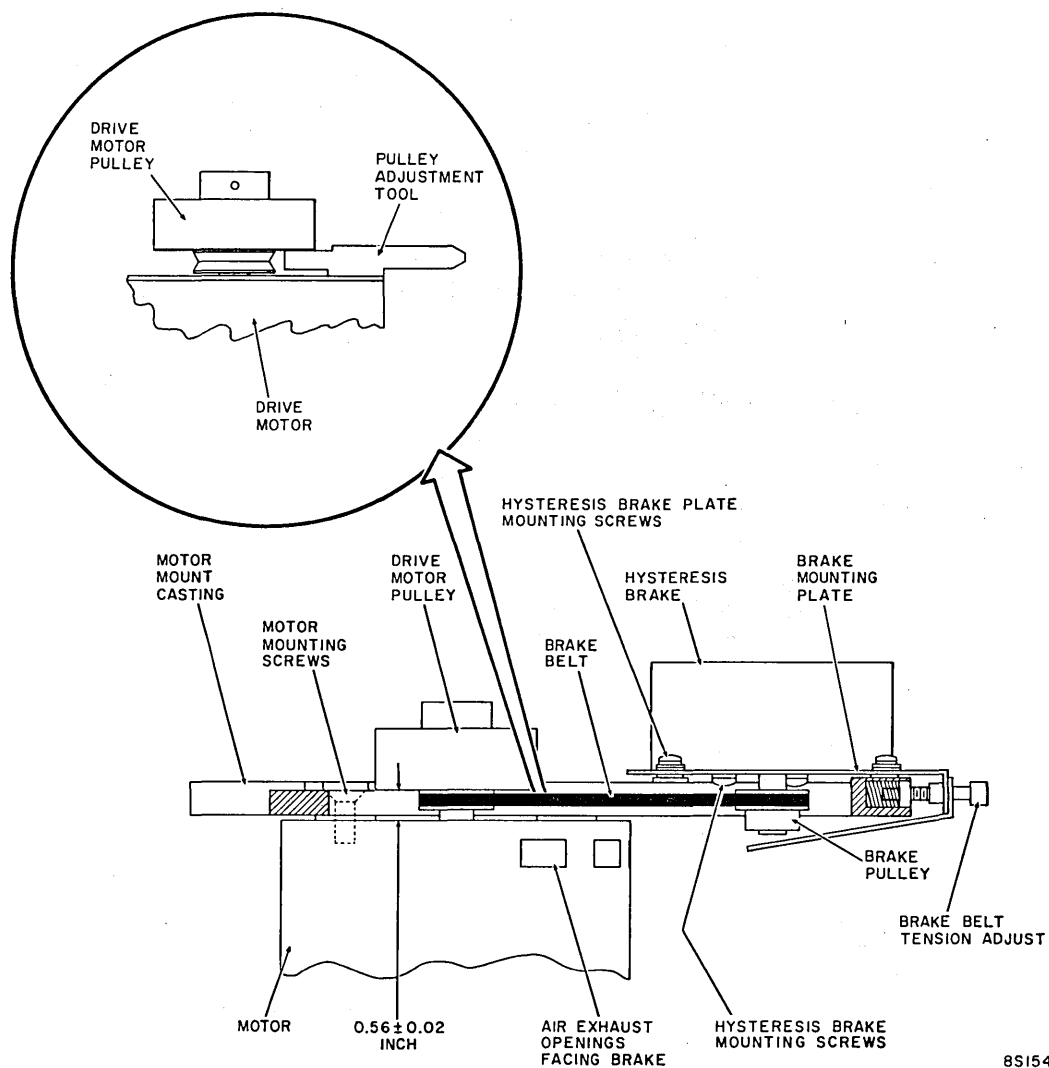

Figure 3-26. Motor and Brake Assembly
12. Position pulley adjustment tool on motor as shown in Figure 3-26.